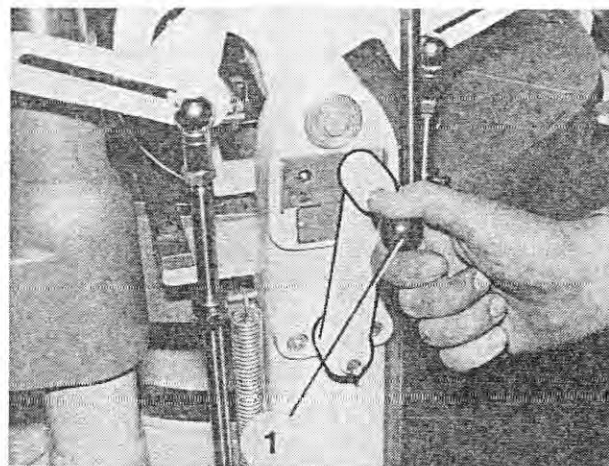

Fig. 129
4. Switch off the dosing unit, pulling out the index pin (Figure 129/1) and setting the lever to position „0“.